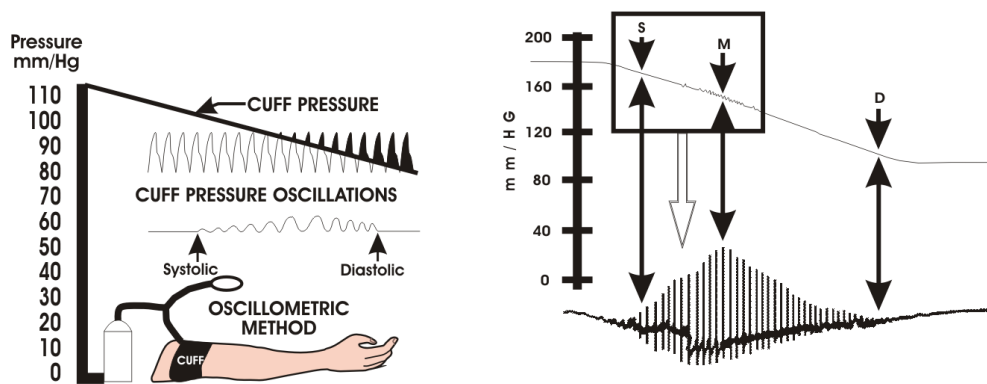

Figure 4-8. Oscillometric Measurement Method
- a. As the occlusive cuff is inflated to a suprasystolic pressure the artery is occluded so that no blood passes through. At this point, even though no blood flows under the cuff, there are small pulsations induced into the cuff pressure by the partially-occluded proximal portion of the artery lying under the cuff (See Figure 4-8).